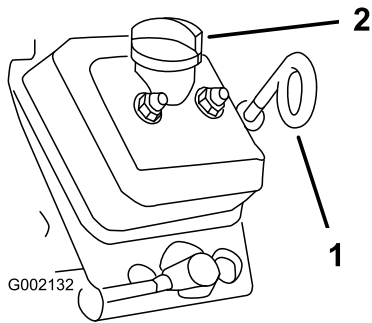

Figure 35
8. Clean around the oil dipstick, fill cap, and filler neck, and remove the dipstick (Figure 35).
9. Remove the fill cap and pour the specified oil into the filler neck until the oil level is up to the Full mark on the dipstick (Figure 35).
10. Insert the dip stick fully into the dipstick tube, remove the dipstick, and check the oil level (Figure 35).
11. Install the dipstick into the dipstick tube and the fill cap into the filler neck until the dipstick and cap are firmly in place (Figure 35).